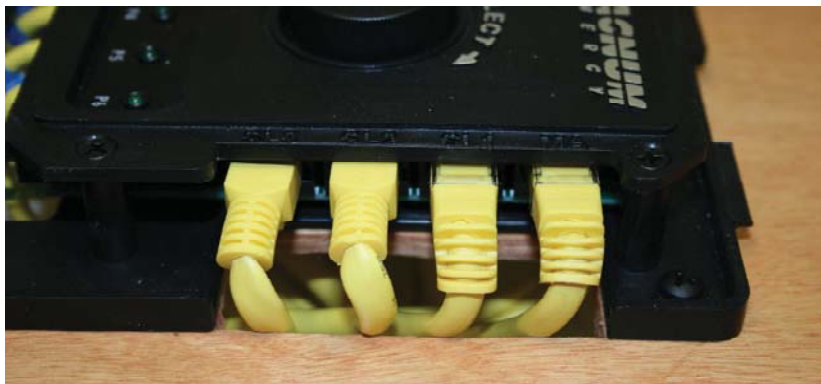

Figure 2-6, Connecting the CAT 5 Cables to the Router
3. Connect each CAT 5 cable to its respective CAT 5 port on the router (MA, SL1, SL2, and SL3 ports for the appropriate number of inverters installed in parallel). See Figure 2-6.